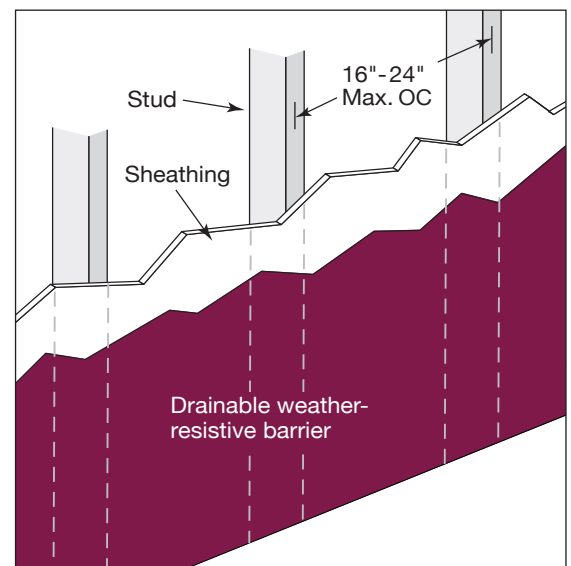

Fig. 2
- Always install a drainable weather-resistant barrier to allow proper water management according to local building code requirements (**Fig. 2**)